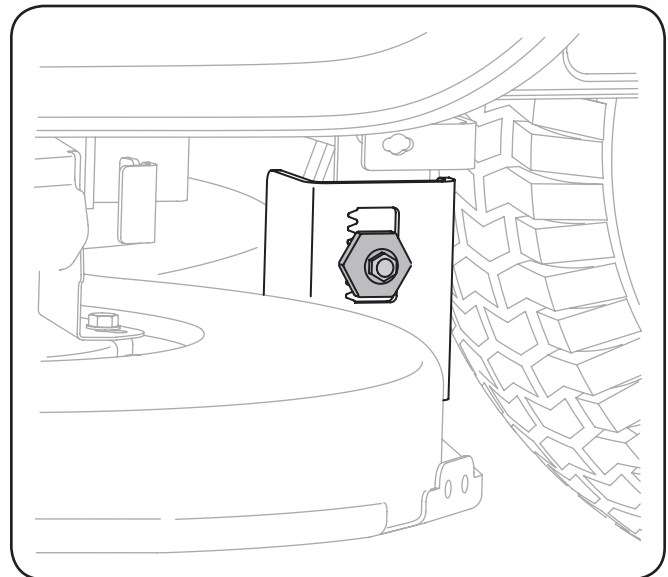

Figure 6-4
3. Loosen, but do NOT remove, the hex cap screw on the left deck hanger bracket. See Figure 6-4.